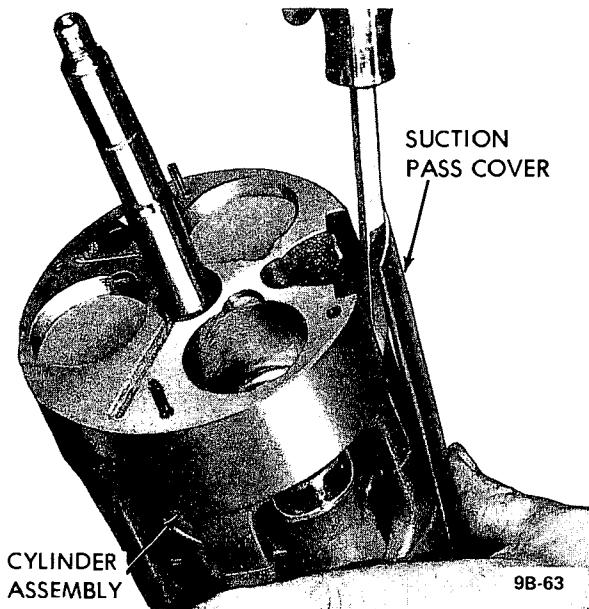

Figure 9B-88 Removing Suction Pass Cover - 6 Cylinder Compressor
2. Place cylinder assembly (front end downward) on top of compressing fixture (J-9397), number pistons and cylinders "1, 2 and 3" to facilitate reassembly (see Figure 9B-90), and separate cylinder halves using a hard rubber mallet or hammer and wood block.